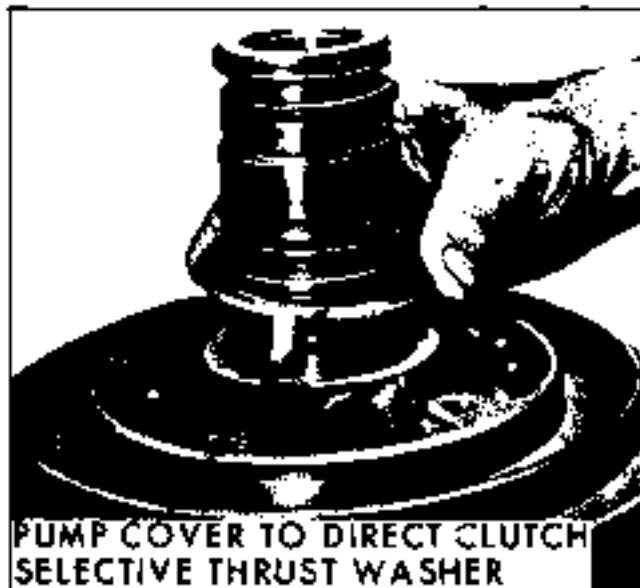

Fig. 7G-117 Front Unit End Play Selective Thrust Washer
pump cover-to-direct clutch drum selective thrust washer. This is the washer having one (1) tang (Fig. 7G-117).